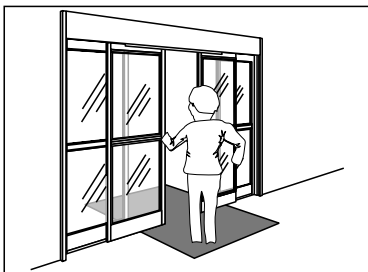

Figure 4
6. Step on the "opening" mat in several places. Door should slide open smoothly and stop without impact. (See Figure 4).